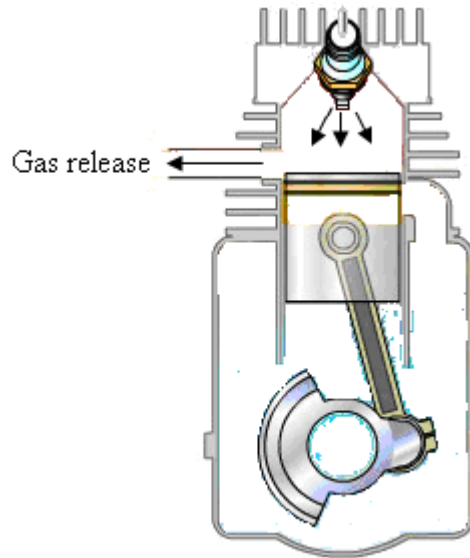

Figure 6
15. Figure 6 shows the internal combustion engine.